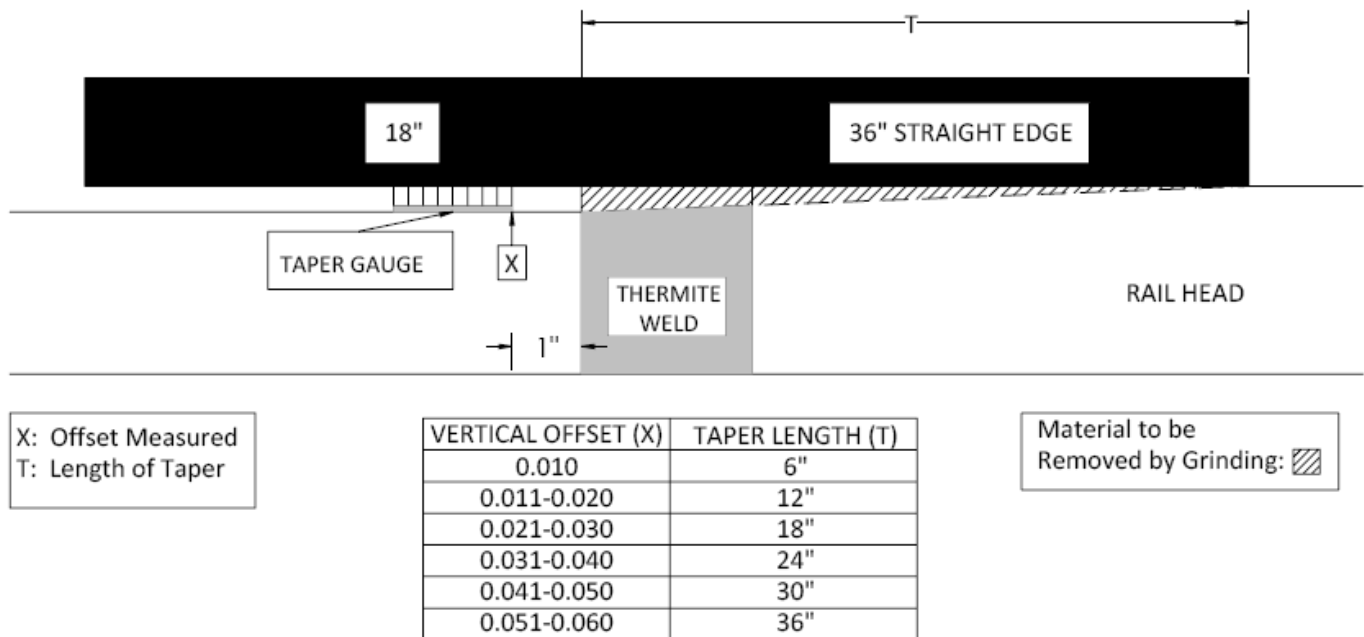

Fig. 29.1 Vertical Offset Rail Taper Length Requirements
- f. Determine if a vertical offset condition exists in the completed Thermit[®] weld. (See Figure 29.1)
- Insert the taper gauge between the rail head and the straight edge, approximately one (1) inch from the weld fusion line; and
- Determine the length of taper required from the chart in Figure 29.1
- The weld should be flush with the low rail and taper back the distance specified in Figure 29.1, up to a maximum of three (3) feet; and